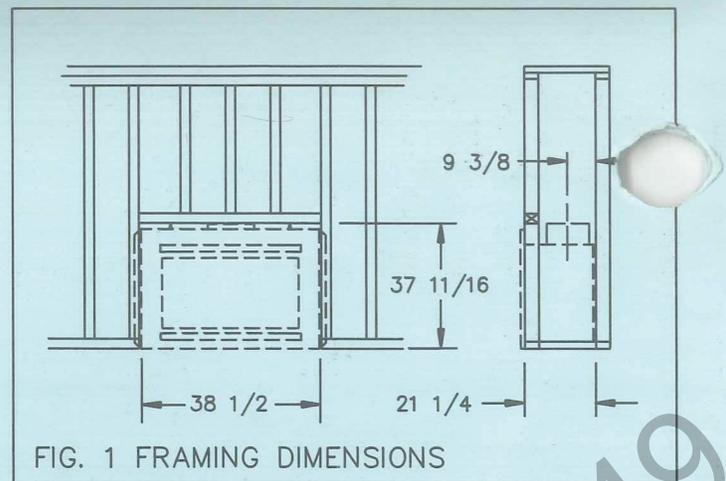
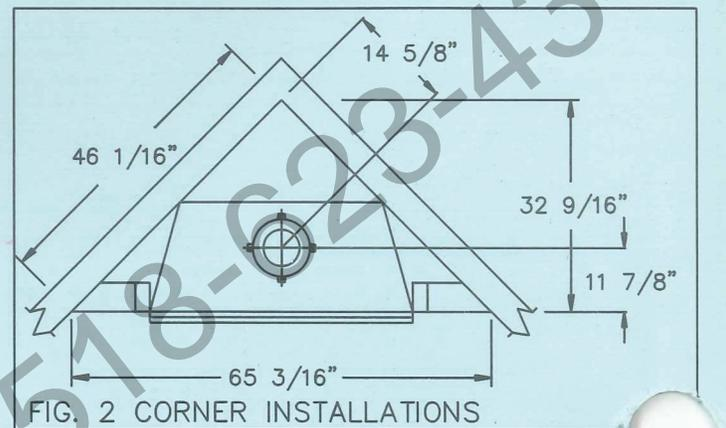

FIG. 1 FRAMING DIMENSIONS
FIG. 2 CORNER INSTALLATIONS
STEP 1: Frame the opening for the fireplace using the dimensions shown in FIG. 1 or FIG. 2.